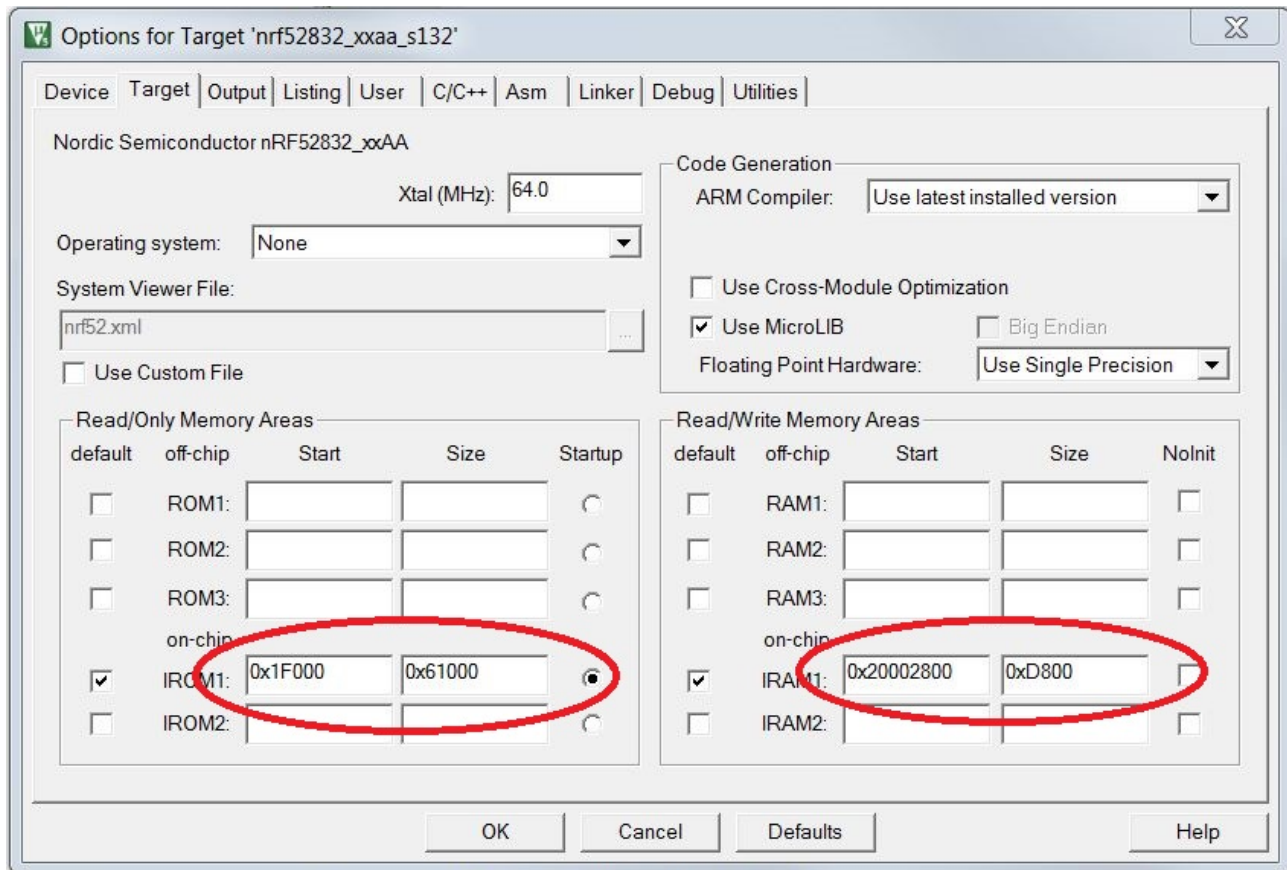

Figure 1: ROM and RAM settings for the S132 v1.0.0-3.alpha SoftDevice
The new S132 SoftDevice developed for the nRF52 Series is based on the S130 SoftDevice for the nRF51 Series. It supports both peripheral and central role concurrently. The API for S132 v1.0.0-3.alpha is aligned with the APIs for S110 v8.x.x, S120 v2.x.x and S130 v1.0.0. If you have an application running on S110 v8.x.x, S120 v2.x.x or S130 v1.x.x, the application should work with the S132 v1.0.0-3.alpha by adjusting the different memory settings as shown in Figure 1: ROM and RAM settings for the S132 v1.0.0-3.alpha SoftDevice on page 11. Newer S132 SoftDevices may have different memory settings and/or unaligned API compared with S132 v1.0.0-3.alpha. Refer to the release notes, migration document and SoftDevice Specification for details on any newer version of the S132 SoftDevice version. It is important that you recompile your application with the header files released with the S132 SoftDevice you are using.
5. Configure IROM and IRAM settings for the S132 SoftDevice, as shown in Figure 1: ROM and RAM settings for the S132 v1.0.0-3.alpha SoftDevice on page 11.